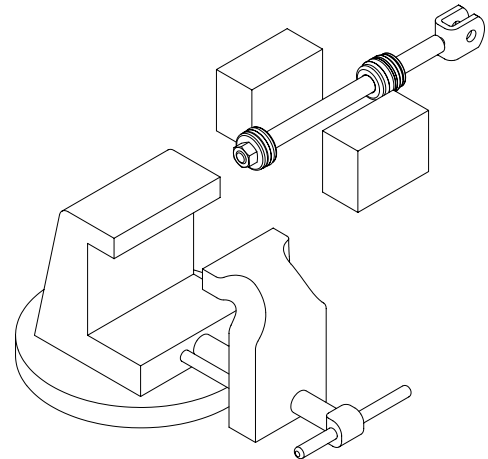

Figure 1-2, Cylinder Shaft
6. Clamp the rod assembly in a soft jawed vise on the wrench flats, **not on the rod surface**. If the rod does not have wrench flats use two pieces of wood on both sides of the rod to prevent scarring. (Figure 1-2)